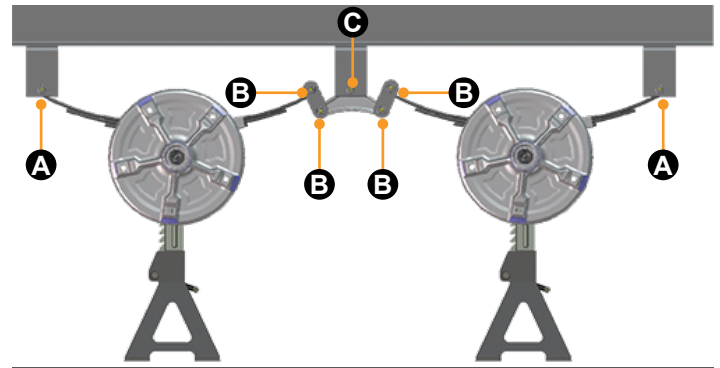

Fig.2
7. Using a floor jack, lift the axles slightly and place the additional properly-rated jack stands under the axles (Fig.2) so that the shackle bolts can be driven out with a hammer.